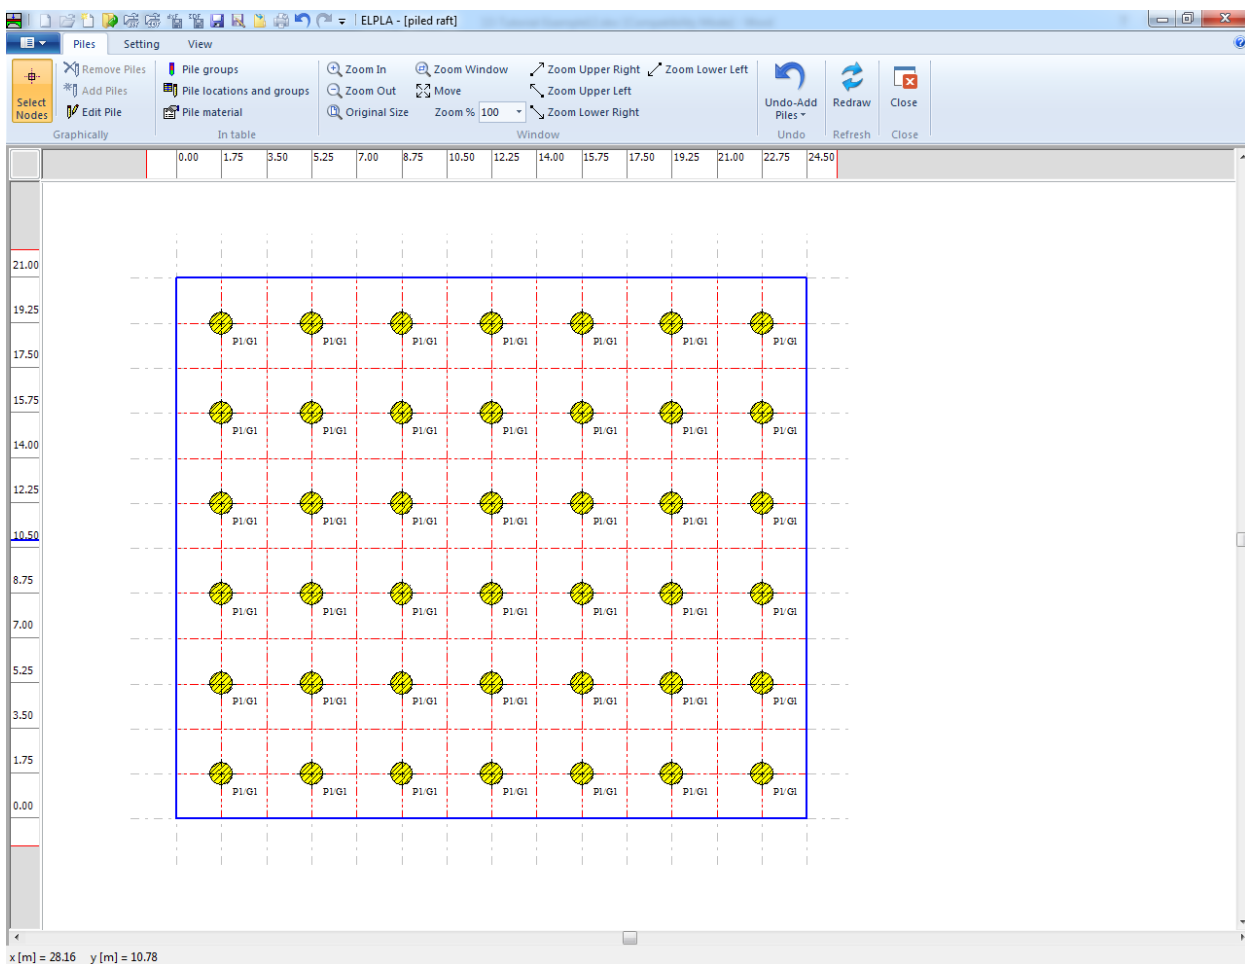

Figure 12.18 Piles
After you have completed the definition of the piles, the screen should look like the following Figure 12.18.
- Choose "Save" command from "File" menu in Figure 12.18 to save the data of piles
- Choose "Close" command from "File" menu in Figure 12.18 to close the Piles Window and to return to *ELPLA* main window.